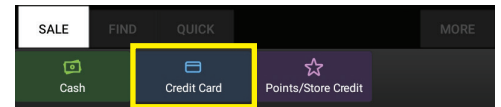

Figure 55
2. Select Credit Card (Figure 55).